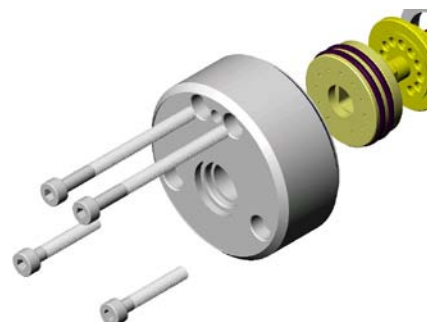

Fig 2
- Using a 2.5mm A/F Allen Key withdraw the two M3 x 35mm Screws shown in fig 2 & 3.